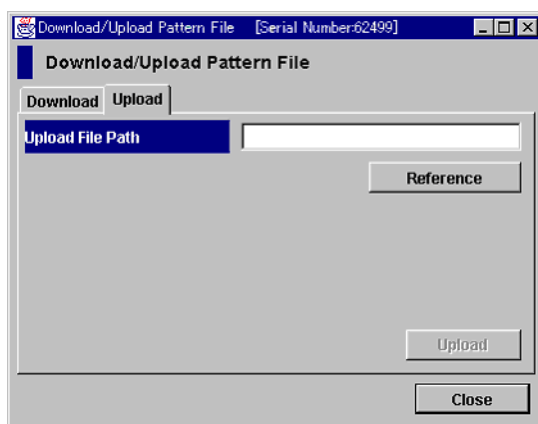

Figure 203 Download/Upload Pattern File window (Upload tab)
1. From the LDEV Guard window, click **Download/Upload**. The Download/Upload Pattern File window is displayed (Figure 203).